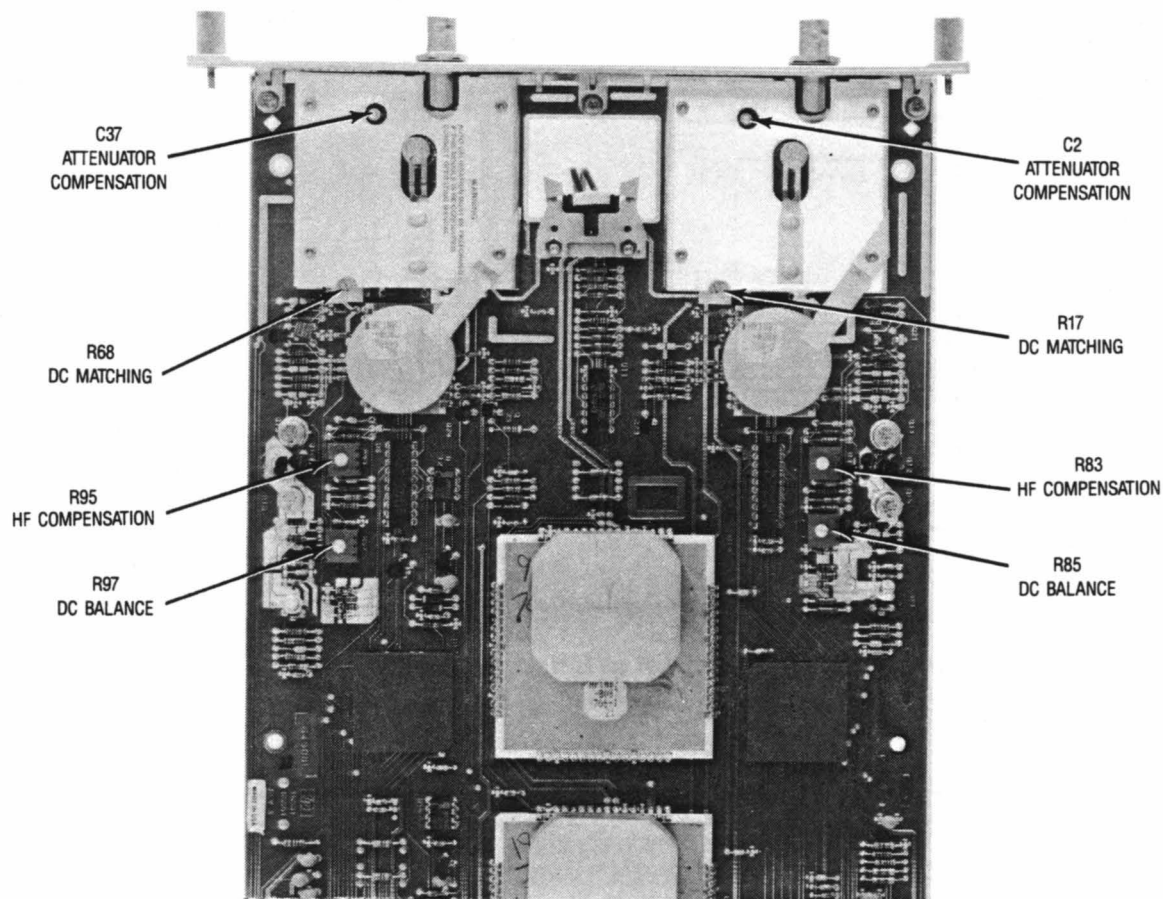
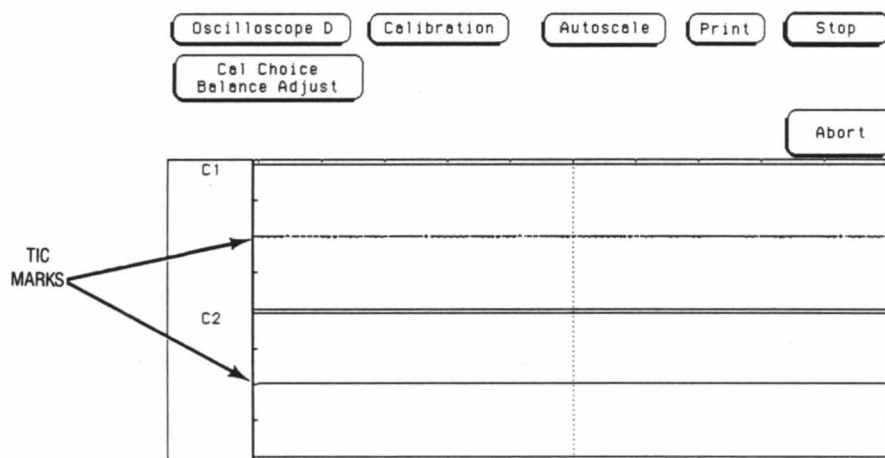

Figure 4-24. Component Location
Figure 4-25. Offset Voltage Tick Marks
- d. Using figure 4-24 as a guide for component location, adjust R85 to center channel 1 trace on the offset voltage tick mark. See figure 4-25.
- e. Adjust R97 to center channel 2 trace on the offset voltage tick mark. See figure 4-25.